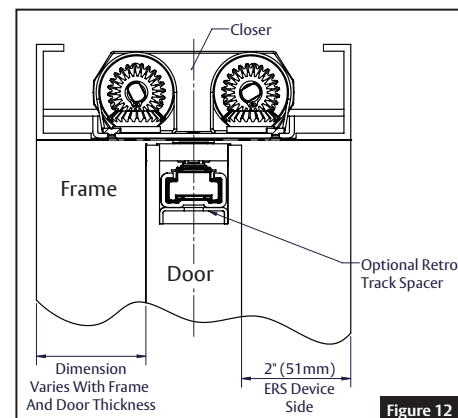

Figure 12
6. Open latch and sweep valves to allow door to close and observe door and frame alignment. If door is not resting against emergency stop release device when closed, reopen door and use 5/16" hex wrench to rotate slider centering hub until door comes to rest against ERS device. (Figure 12)